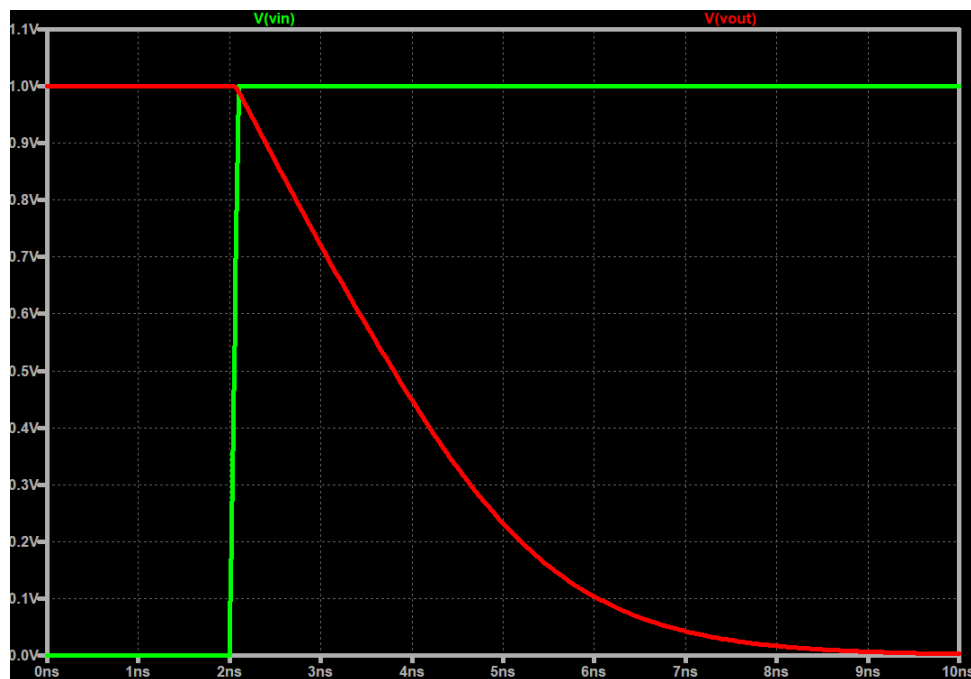

Figure 2.12 Simulation of NMOS Switch
4. **Run the simulation and plot VIN and VOUT.** You should get Figure 2.12. Nice! That wasn't hard right?